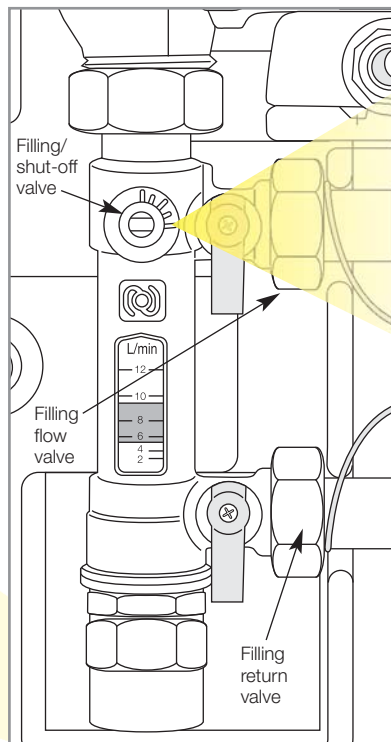

Figure 4-1: Filling and flushing valves
The Filling flow and return valves, and the Filling/Shut off valve, are used for filling and flushing the solar thermal installation. Refer to Figure 4-1.
- Connect the pressure hose from the filling station to the Filling Flow valve connection and open the valve. Refer to Figure 4-1 (page 10).
- Connect the return hose from the filling station to the Filling Return valve connection and open the valve. Refer to Figure 4-1 (page 10).